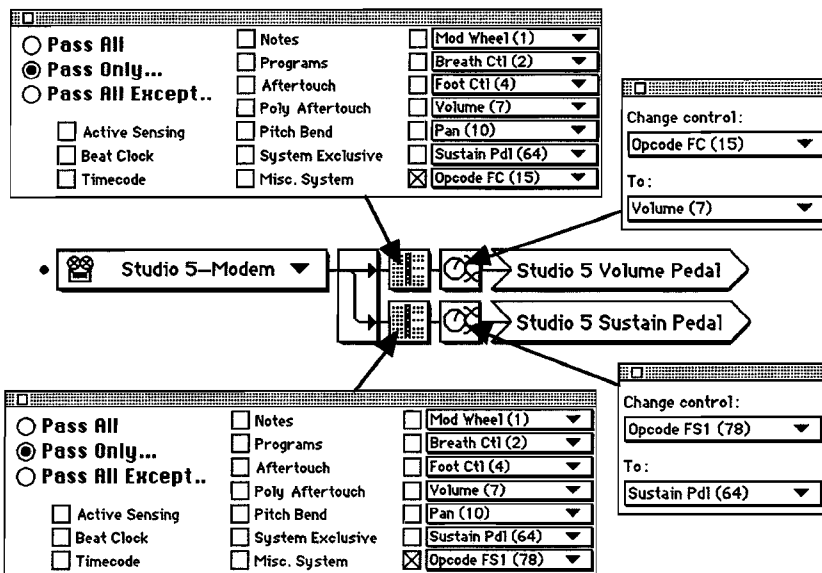

Figure 11-7: Defining Virtual Pedals
- Design a Virtual Controller similar to the one shown in Figure 11-7. See Chapter 7 to learn about Virtual Controllers and Virtual Instruments.